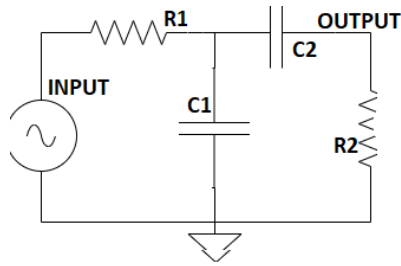

Figure 7 Band Pass Filter circuit
1. 1-Connections are made as shown in Fig.7